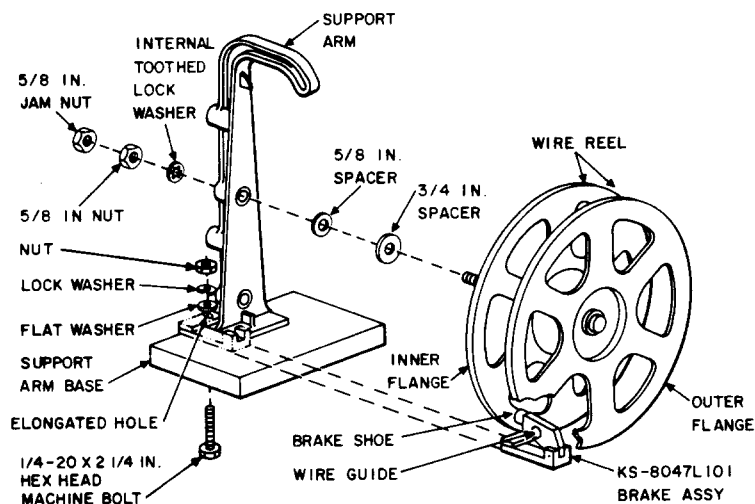
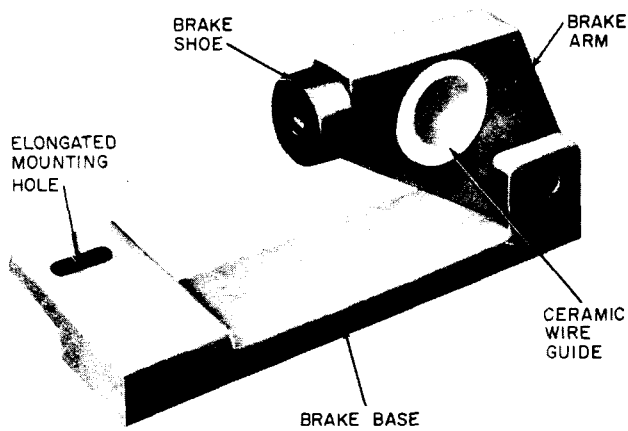

Fig. 3—Installation of KS-8047 L101 Automatic Brake Kit
Fig. 4—♦KS-8047 L101 Brake♦
(a) **Removal of the Drag Brake (Fig. 3)**
(b) **Preparation of Wire Reel for Brake Kit (Fig. 3)**
- (1) Remove the wood screw that holds the left side of the support arm to the base; discard this screw.
- (2) Drill a 1/4-inch diameter hole through the wood base where the wood screw was removed.
- (3) Place the L101 brake (Fig. 4) over the support arm base, as shown in phantom in Fig. 3. Align the slotted hole in the brake assembly over the hole in the support arm, and insert the 1/4- by 2-1/4 inch machine bolt from the bottom up with the bolt head under the wood base and the nut with flat washer and lockwasher on top of the brake.
- (4) For frame-mounted wire reels without the wood base, use the 1/4-20 by 1-inch hex cap screw, plain washer, lockwasher, and nut provided to fasten the brake to the support arm base.
- (5) Because the inside reel flange may be warped, rotate the reel to the spot where the brake shoe is in best contact with the reel flange. With the brake shoe flush against the inner flange, secure the brake assembly using the flat washer, lockwasher, and nut provided.
- (c) **Installation of the KS-8047 L101 Brake (Fig. 3)**